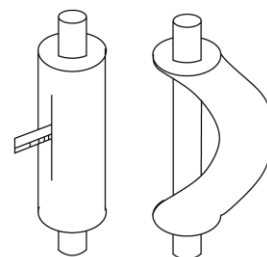

Fig. 12
- (1) Reshape the pipe by hand. Be careful not to damage the pipe.
- (2) Do not bend the pipe over 90°.
- (3) (If pipe is repeatedly bent or stretched, it will get hard and difficult to bend and stretch again. Therefore, do not bend or stretch the bend for over 3 times.
- (4) In case that direct bending will open cracks to the pipe, first use sharp cutter to cut the insulating layer, as shown in Fig. 12. Do not bend the pipe until it is exposed. When bending is done, wrap the pipe with insulating layer and then secure it with adhesive tape.